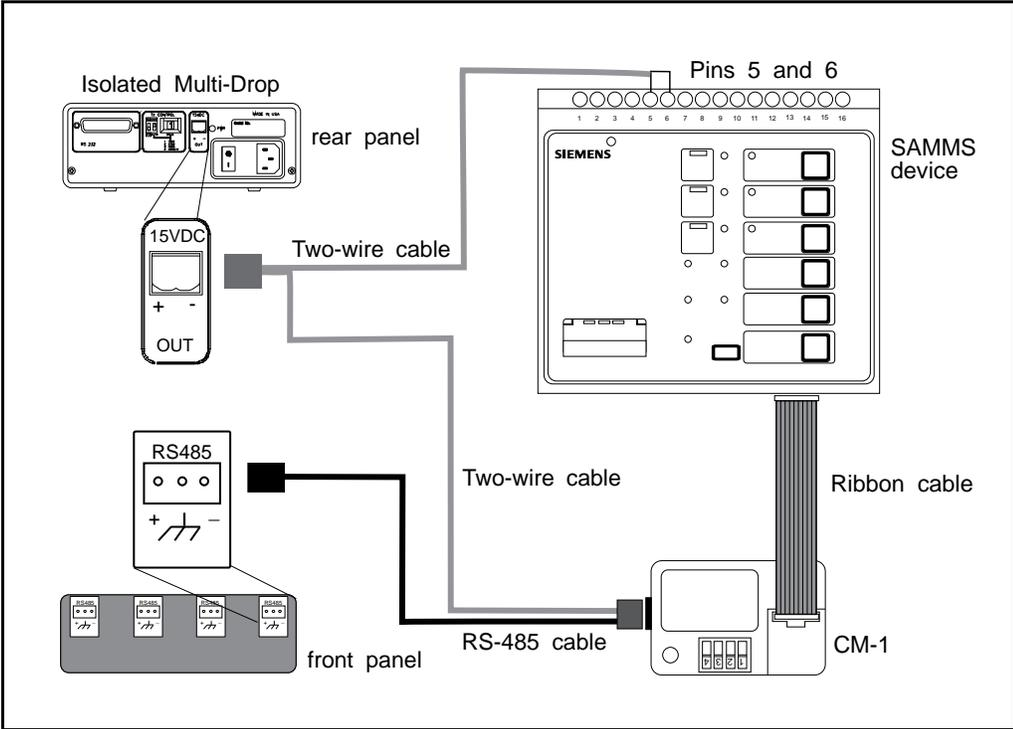

Figure 4.4 Connecting SAMMS Device for Testing
If you are testing a SAMMS device on a desktop, follow these steps to connect the device to the converter, while referring to Figure 4.4 on the next page and to the SAMMS-LV User's Manual (Manual No. MC-3298) or SAMMS-MV User's Manual (Manual No. MVC-9108):
1. Prepare 2 two-conductor cables by connecting them to one two-terminal connector, as described at the beginning of this section and illustrated in Figure 4.4.